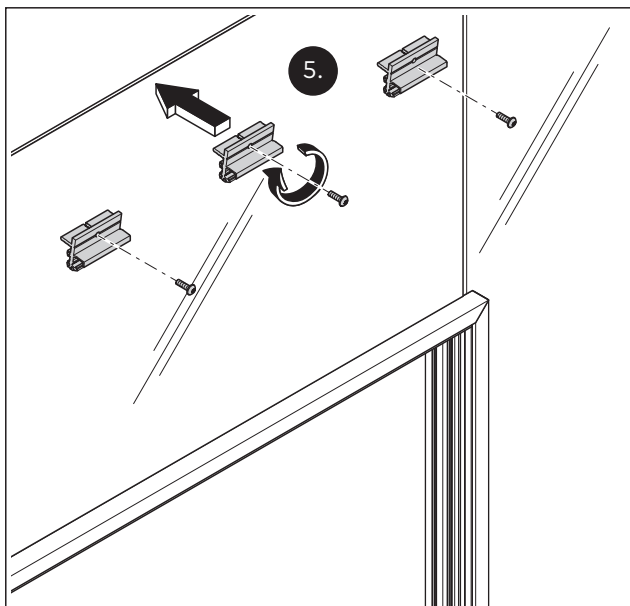

Fig. 31 Fix the overpanel horizontally to the base profile of the mounting profile (top)
- Mount at least 3 clamping pieces per meter on the base profile of the mounting profile with a torque of 5 Nm (Fig. 31).